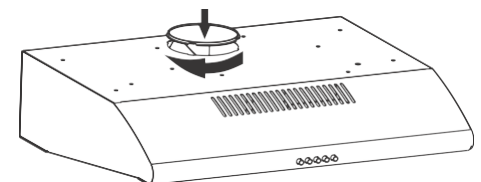

Fig. 9
5. In a twisting motion fix the round blanking plate to the flue outlet on the top surface of the hood (Fig. 9).